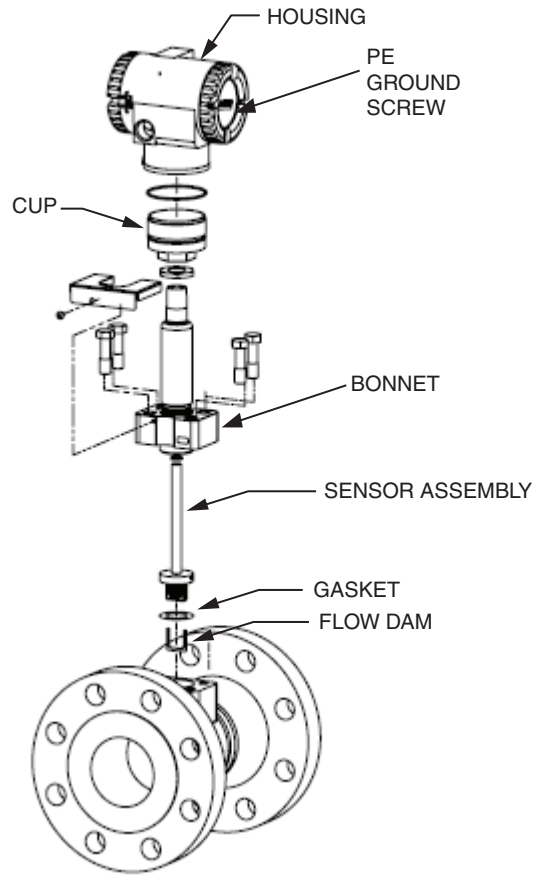

Figure 1. Sensor Replacement - Integrally Mounted Flowmeter
The flowmeter housing must be in a vertical mounting position (as shown in Figure 1) so that the bonnet bolts can be properly torqued. Therefore, if the flowmeter housing is not in the vertical position, remove the flowmeter from the line while doing a sensor replacement. In all cases, the pipeline must be shut down and emptied before loosening the bonnet bolts.
Refer to Figure 1.
3. If your housing has an anti-rotation screw, remove the red lacquer from the screw recess. Turn the screw three full turns counterclockwise (see Figure 1 for location). Remove the housing by rotating it counterclockwise (when viewed from the top).